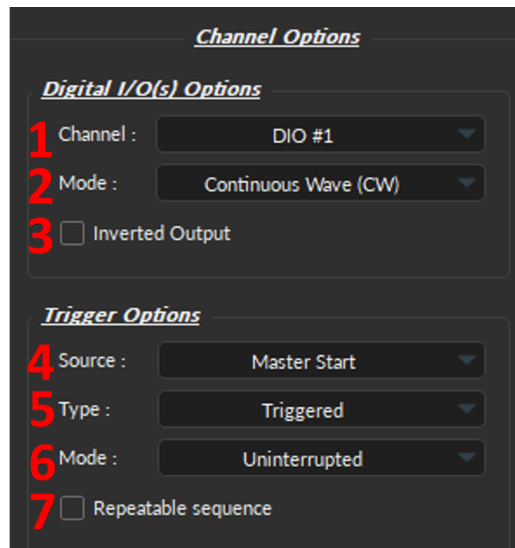
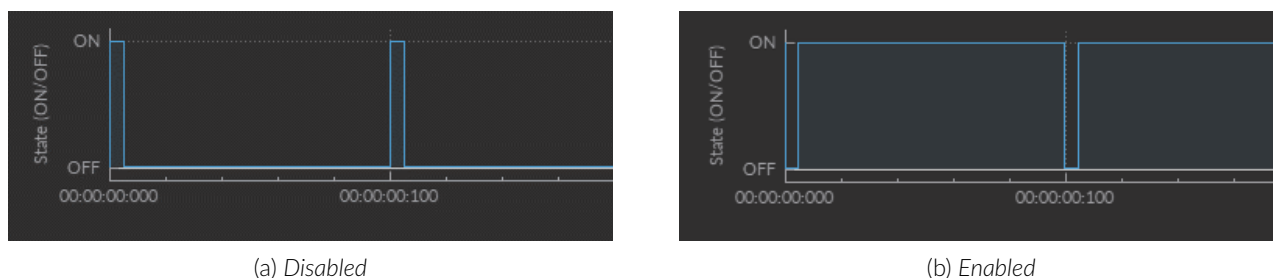

Figure 10.11: Channel(s) configuration window, Digital I/O Channel Options
Figure 10.13: *Inverted Output*
1. The **Channel** (Fig 10.11, 1) identifies the channels available to create a Digital I/O. The channel can be changed by selecting a new one from the drop-down list. Each numbered channel on the physical OTPG corresponds to the same number of the digital channel within the software.
2. The **Mode** (Fig 10.11, 2) identifies the type of signal sent (for output channels) or the way the signal is measured (for input channels). Three modes are available:
3. The **Inverted Output** checkbox (Fig 10.11, 3), when enabled, will convert every 0 to 1 and 1 to 0, such as in Fig. 10.13.
- The **Source** trigger option (Fig 10.11, 4) specifies the element that will set off the digital output. Two options are available:
- The **Type** (Fig 10.11, 5) defines how the trigger activates a sequence. This includes input sequences, which can be triggered/gated by an outside source.
- The **Mode** (Fig 10.11, 6) defines how the sequence will run if a second TTL pulse is received before the sequence ends. This includes input sequences, which can be triggered/gated by an outside source. Four options are available:
7. The **Repeatable sequence** checkbox (Fig 10.11, 7), when enabled, will run the sequence when additional TTL pulses are received (Fig. 10.15).
The parameters contained in the **Sequence Options** depend on the **Channel Mode** (selected in **Channel Options**, Fig. 10.11), as following: